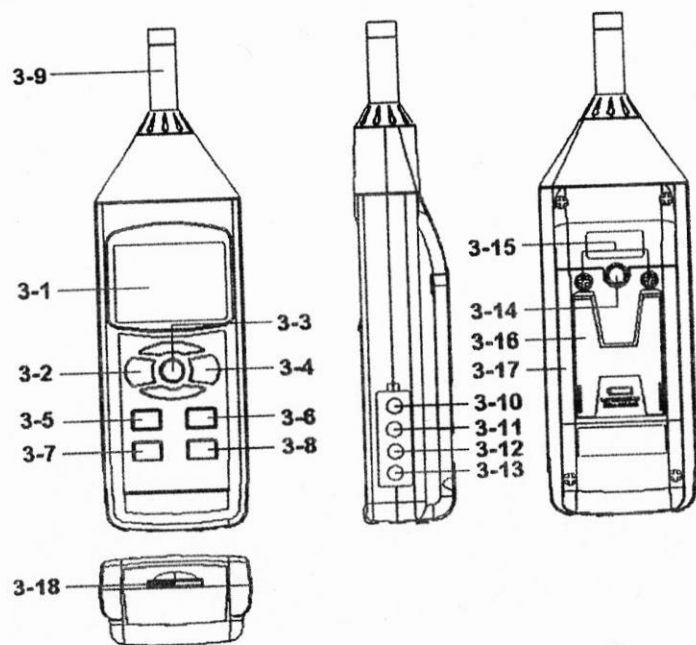

Fig. 1
- 1) Power on by pressing the " Power On/Off Button " (3-2, Fig. 1) , the meter's default function is " Auto range ", " A frequency weighting " & " Fast time weighting ". The LCD display will show the unit " A. Fast Auto ".
- 2) Select " A " or " C " frequency weighting by pressing the " A/C Button " (3-6, Fig. 1) .
- 3) Determine proper measuring range by pressing the " Range Button " (3-5, Fig. 1). After power on the default range is " Auto range ". In the same time the lower right display will show the text of " Auto ". Under the auto range, press the " Range Button " (3-5, Fig. 1) once step by step will enter to the manual range (range 1, range 2, range 3) and auto range in sequence. There are still 3 manual ranges for your choice :
- 4) According to various measuring sound source, select the Time Weighting (Fast or Slow) by pressing the " Time Weighting Button " (3-7, Fig. 1).
During the measurement, press the " Hold Button " (3-3, Fig. 1) once will hold the measured value & the LCD will display a " HOLD " symbol.
- 1) The data record function records the maximum and minimum readings. Press the " REC Button " (3-4, Fig. 1) once to start the Data Record function and there will be a " REC " symbol on the display.
- a) Press the " REC Button " (3-4, Fig. 1) once, the " REC MAX " symbol along with the maximum value will appear on the display.
If intend to delete the maximum value, just press the " Hold Button " (3-3, Fig. 1) once, the display will show the " REC " symbol only & execute the memory function continuously.
- b) Press the " REC Button " (3-4, Fig. 1) again, the " REC MIN " symbol along with the minimum value will appear on the display.
If intend to delete the minimum value, just press the " Hold Button " (3-3, Fig. 1) once, the display will show the " REC " symbol only & execute the memory function continuously.
After power ON, the " LCD Backlight " will light automatically. During the measurement, press the " Backlight Button " (3-2, Fig. 1) once will turn OFF the " LCD Backlight ".
Prepare a " SD memory card " (1 GB to 16 GB, optional), insert the SD card into the " SD card socket " (3-18, Fig. 1). The front panel of the SD card should face against the the down case.
Press the " REC Button (3-4, Fig. 1) once , the LCD will show the text " REC ", then press the " Logger Button " (3-8, Fig. 1), the " REC " will flashing , at the same time the measuring data along the time information will be saved into the memory circuit.
During execute the Datalogger function , if press the " Logger Button " (3-8, Fig. 1) once will pause the Datalogger function (stop to save the measuring data into the memory circuit temporally). In the same time the text of " REC " will stop flashing.
If press the " Logger Button " (3-8, Fig. 1) once again will execute the Datalogger again, the text of " REC " will flashing .
During pause the Datalogger, press the " REC Button " (3-4, Fig. 1) continuously at least two seconds, the " REC " indicator will be disappeared and finish the Datalogger.
Press the " REC Button (3-4, Fig. 1) once , the LCD will show the text " REC ", then press the " Logger Button " (3-8, Fig. 1) once, the " REC " will flashing once, at the same time the measuring data along the time information and the Position no. will be saved into the memory circuit.
- * During execute the Manual Datalogger, press the " SET Button " (3-7, Fig. 1) once, then use the " ▲ Button " (3-5, Fig. 1) or " ▼ Button " (3-6, Fig. 1) to set the measuring position (1 to 99, for example room 1 to room 99) to identify the measurement location. After finish the adjustment location no., press the " Enter Button " to entry.
Press the " REC Button " (3-4, Fig. 1) continuously at least two seconds, the " REC " indication will be disappeared and finish the Datalogger.
During the measurement if press " Time check Button " (3-5, Fig. 1) > 2 seconds, the lower LCD display will present the time information of Year/Month, Date/Hour, Minute/Second.
During the measurement , If press " Sampling Check Button " (3-6, Fig. 1) > 2 seconds, the lower LCD display will present the Sampling time information in second unit.